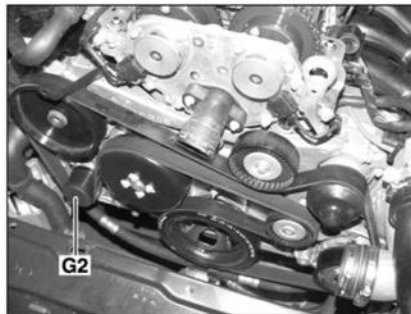

Figure 1
2. Pry the plastic cover off the end of the alternator pulley (Figure 1, G2). Insert socket wrench tool (W602 589 00 10 00) to hold the shaft from turning. Turn the pulley clockwise by hand and it should lock. Turn the pulley counterclockwise, it should freewheel.